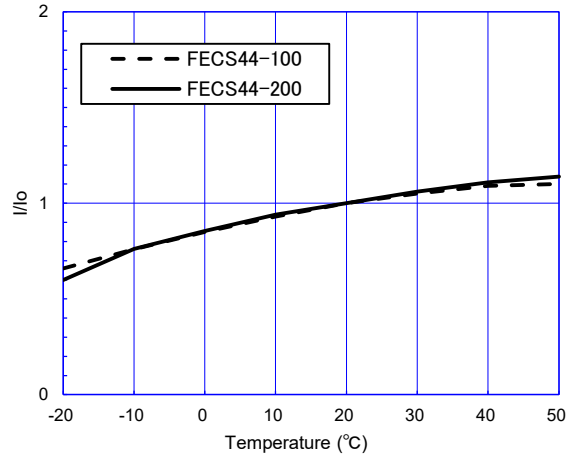

Fig. 7 - Temperature dependency (I0=sensor output current at 20°C)
Figure 7 shows the sensitivity change with temperature measured using the recommended basic measuring circuit. The Y-axis shows the ration of output current in 100ppm of NH3 at various temperatures (I) to the output current in 100ppm of NH3 at 20°C. The sensitivity gradually decreases as the temperature decreases, and the sensitivity slightly increases as the temperature increases. Therefore, the temperature dependency of ammonia sensitivity of FECS44-100/-200 can be compensated by a NTC thermistor.